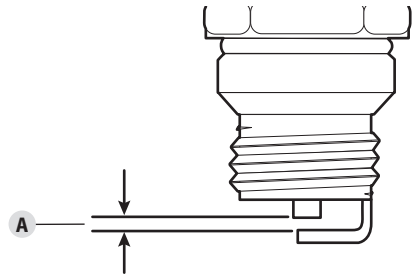

Fig. 21
4. Use a feeler gauge to set the air gap (Fig. 21-A) at **0.025 in. (0.635 mm)**.